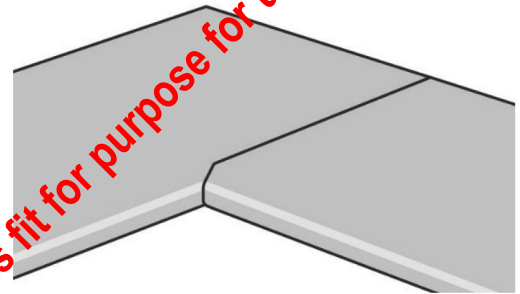

Figure 14
- 43 When routing the male cut as shown in Figure 14, how should the worktop be positioned?